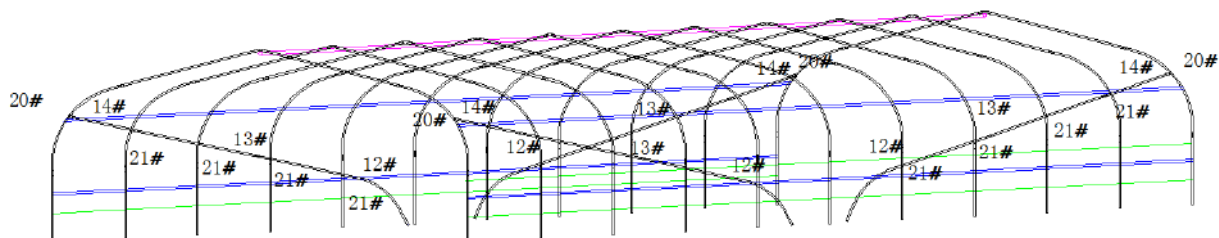

Figure 11
- Insert the tubes (No. 12) into the ground and secure Diagonal tubes with U-shaped belts (No. 21), as shown in Figure 11.